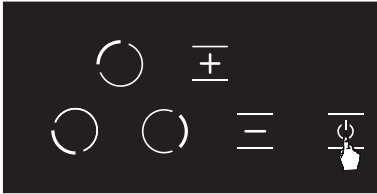

Figure 15
1. You may turn the stove off by pressing the **⏻** button. (See Fig. 15)